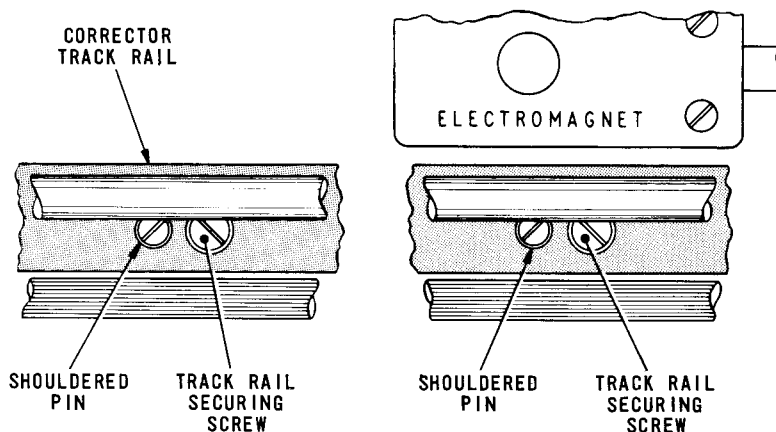

Fig. 4.50 TYPEHEAD CORRECTOR TRACK RAIL
- 58.2 If this condition is not present, it will be necessary to adjust the height of the corrector track rail, Fig.4.50. To do this, slacken the two screws securing the track rail and adjust the height of the rail by means of the two shouldered pins. When the correct height is achieved, tighten the track rail securing screws.